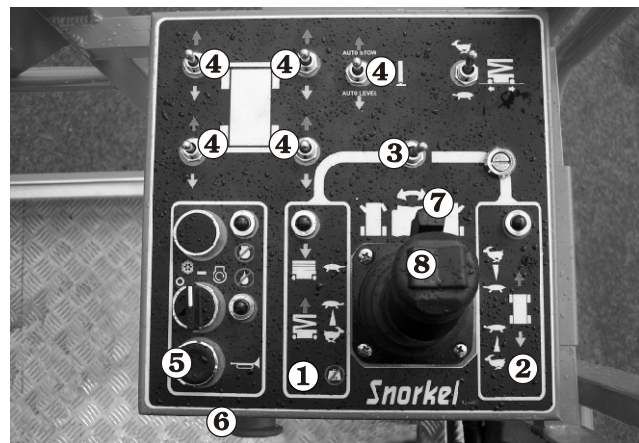

Figure 7.28 - Platform Controls
Check all of the lift , drive ②, steer ③, and stabiliser ④ functions from the platform control box to see that they cause the S3970RT / S3370RT / S2770RT to move the way it should (see Figure 7.28). (for correct operating procedures see the Operation chapter).
Press the operator horn ⑤ (see Figure 7.28) to see that it works.
Pay particular attention to the **Emergency Stop** switch ⑥ to see that it turns the engine off when struck (see Figure 7.28).
Pay particular attention to the **Safety Control 7** to see that it deactivates the **Joystick Controller 8** when the safety control 7 is released (see Figure 7.28).